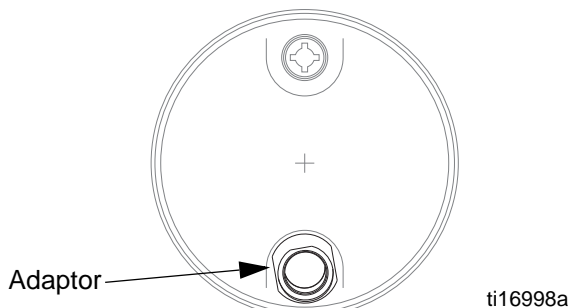

FIG. 4. Angled Adaptor
2. Thread the angled adaptor into the bung until it bottoms out, then back it out until the widest portion on of the adaptor top is pointing just to the left of the center of the drum (Fig. 4).